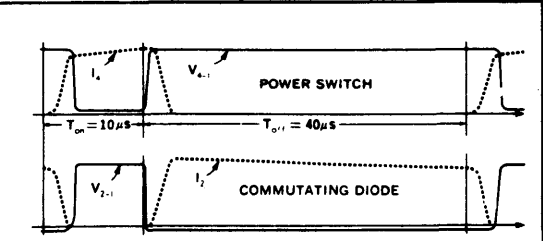

Figure 2. SM625, 626, 627 Switching Waveforms
- In switching an inductive load, the current will lead the voltage on turn-on and lag the voltage on turn-off (see Figure 2). Therefore, voltage Delay Time (t_{DV}) $\cong t_{di} + t_{ri}$ and Current Storage Time (t_{st}) $\cong t_{sv} + t_{fv}$.
- As can be seen from the switching waveforms shown in Figure 2, no reverse or forward recovery spike is generated by the commutating diode during switching! This reduces self-generated noise, since no current spike is fed through the switching regulator. It also improved efficiency and reliability, since the power switch only carries current during turn-on.